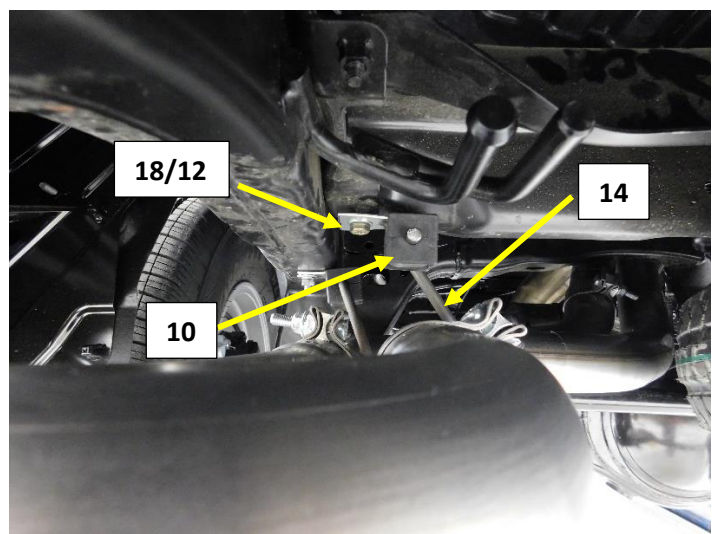

Figure.17
15. Install a supplied tail pipe frame hanger (10) on to the right tail pipe hanger rod (14). Rotate the tail pipe up and position the frame hanger (10) at the left forward spare tire mounting bolt location that had the bolt removed in step.5. Fig.17
17. Install the M8 bolt (18) and flat washer (12) into the frame hanger and into the threaded insert. Tighten the bolt. Fig.17